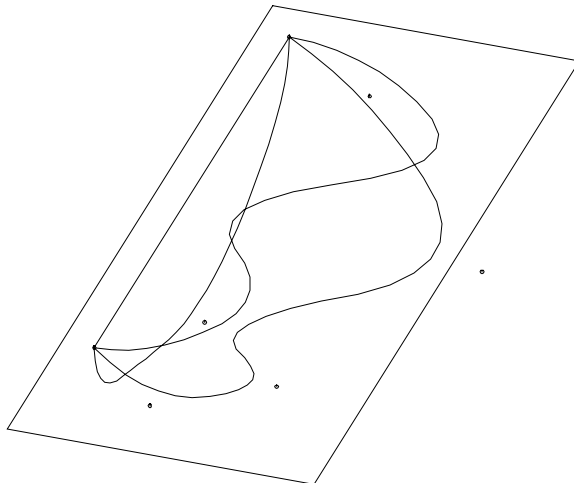

Fig. 4
- 8 Press the **right arrow key 7 times** and the **down arrow key 3 times** and then **Zoom to Fit** (Fig. 4). [This should match distribution model SPOONHOLDER2.sldprt].